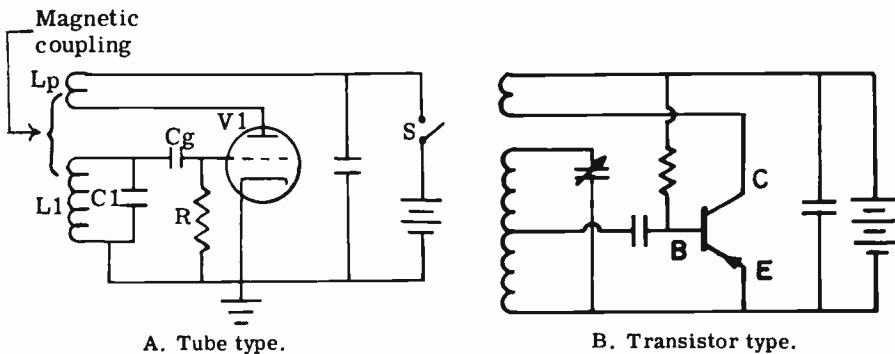
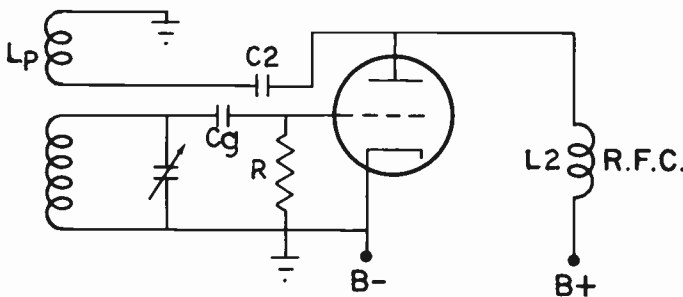
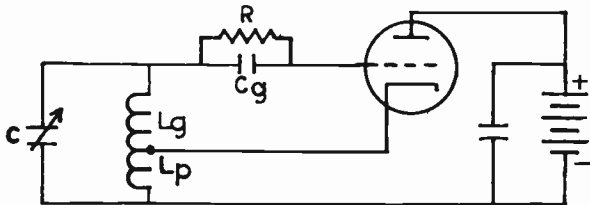
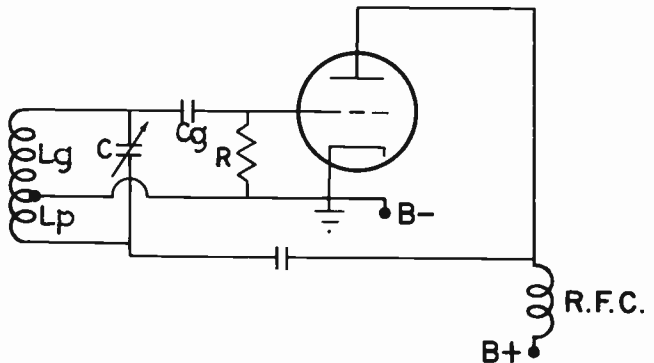

FIG. 12-4. TICKLER-COIL OSCILLATOR OR ARMSTRONG OSCILLATOR.
FIG. 12-7. A SHUNT-FED ARMSTRONG OSCILLATOR
FIG. 12-8A. SERIES-FED HARTLEY OSCILLATOR.
FIG. 12-8B. SHUNT-FED HARTLEY OSCILLATOR.
continue. A simple method of doing this is shown in Fig. 12-4.  $L_1$  and  $C_1$  represent the tuned circuit, sometimes called the TANK CIRCUIT. Fig. 12-4A is a triode tube circuit. The same circuit using a transistor is shown in Fig. 12-4B.  $L_p$  is a coil of wire wound on the same form and placed next to  $L_1$ . Since  $L_p$  is in the output circuit, it is easy to see that some of the amplified energy from the plate or collector circuit is fed back to the grid or base circuit through the magnetic coupling between the two coils. If this energy can overcome the losses in the tank circuit, oscillations will be maintained.
The circuit of Fig. 12-4 is known as the TUNED GRID OSCILLATOR, TICKLER COIL OSCILLATOR, or the ARMSTRONG OSCILLATOR. We shall now discuss, in more detail, the operation of this oscillator.
**SERIES-FED AND PARALLEL-FED OSCILLATORS.** Fig. 12-4 is a schematic of a series-fed Armstrong oscillator. It is called a **SERIES-FED OSCILLATOR** because the DC plate current flows through the plate coil,  $L_p$ . In some cases, it is desirable to arrange the circuit so that the DC component of the plate current does not flow through the plate coil. This is shown in Fig. 12-7. In this circuit, capacitor C2 blocks DC from flowing through  $L_p$ . Only the AC component of the plate current flows through C2 and  $L_p$ . The oscillator of Fig. 12-7 is known as a **PARALLEL-FED** or
Fig. 12-8A shows a series-fed Hartley oscillator, while Fig. 12-8B illustrates a shunt-fed Hartley oscillator. The purpose of the RF choke in Fig. 12-8B is to keep RF out of the power supply.
Note that grid leak resistor R in Fig. 12-8A is across Cg instead of between the grid and cathode as in Fig. 12-7. This does not change the operation of the grid leak bias. It operates in the same manner as was previously discussed and it is simply a designer's choice as to which method of grid leak bias should be used.